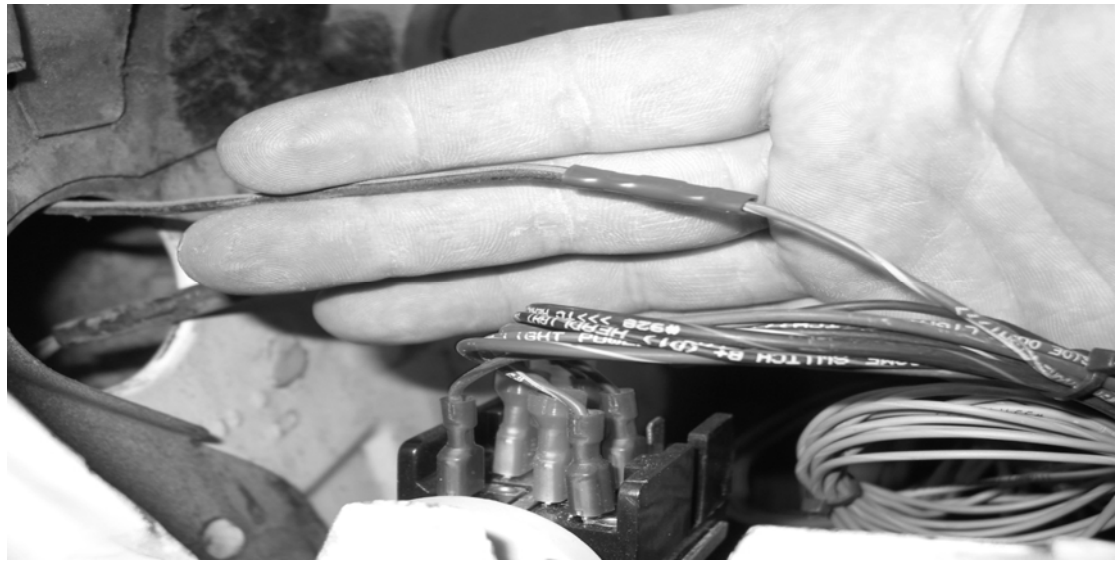
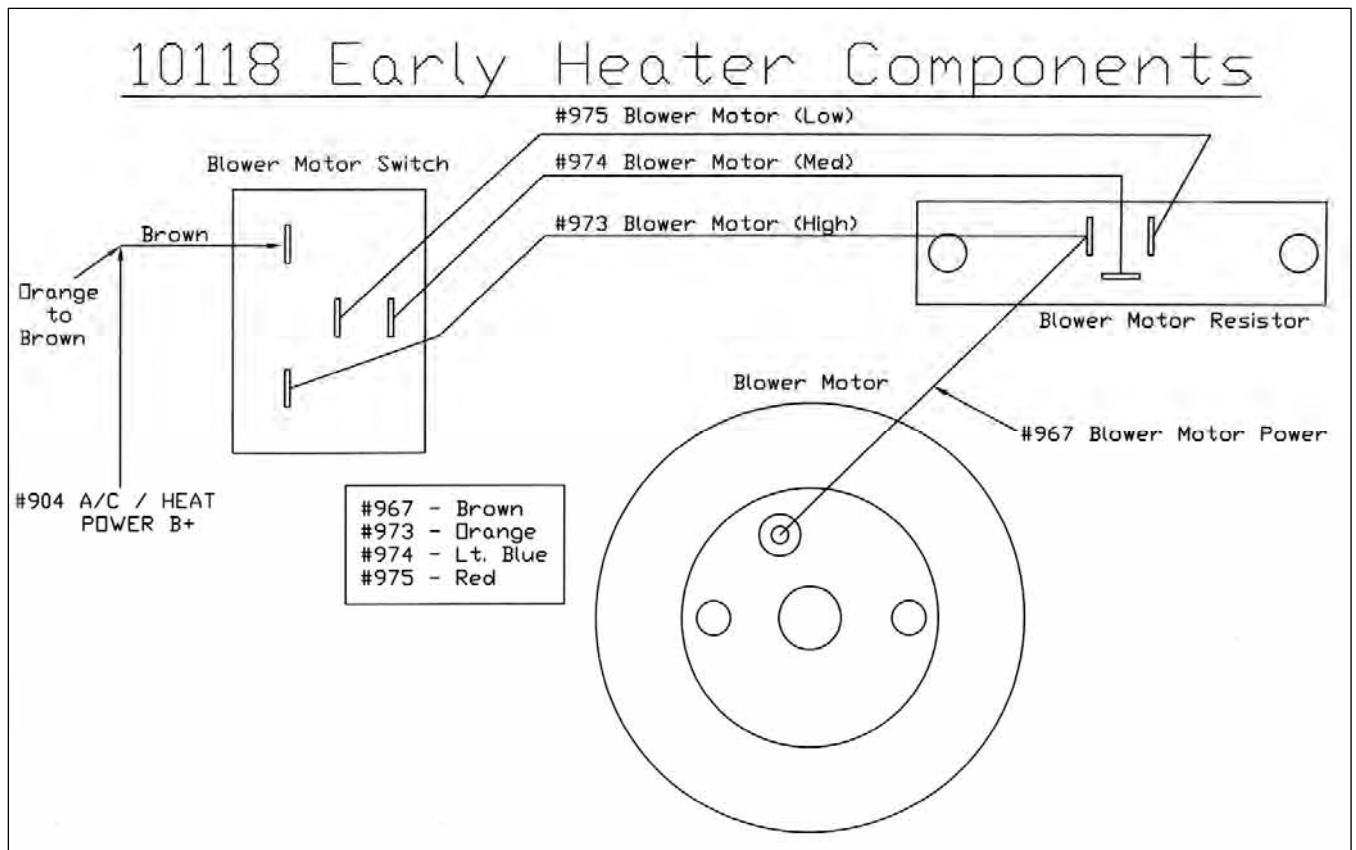

Figure 7-27 Dome Light Power Wire (All Models)
Figure 7-28 Heater Harness Installation for 1967-1972 years only.
- 7.13.1** On 1967-1972 Models only, feed both the passengers side and drivers side door jamb switch wires #945 Black/Blue and #971 Green/Yellow over to each windshield pillar. Using four red butt connectors from the parts kit connect each wire to its appropriate door jamb switch wires. The colors of these wires may match, but they are not polarity specific. **See Figure 7-27 for '67-'72 models and Figure 7-28 for '73-'77 models.**
7.14.1 For all 1967-1972 Ford Trucks with a factory heater and no Air Conditioning, locate the Heater Harness in the parts kit and install as shown below in **Figure 7-28**.